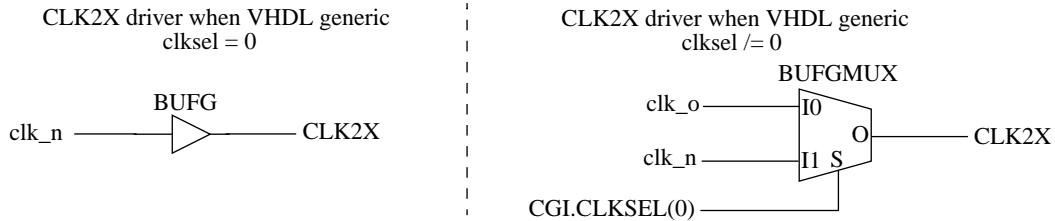
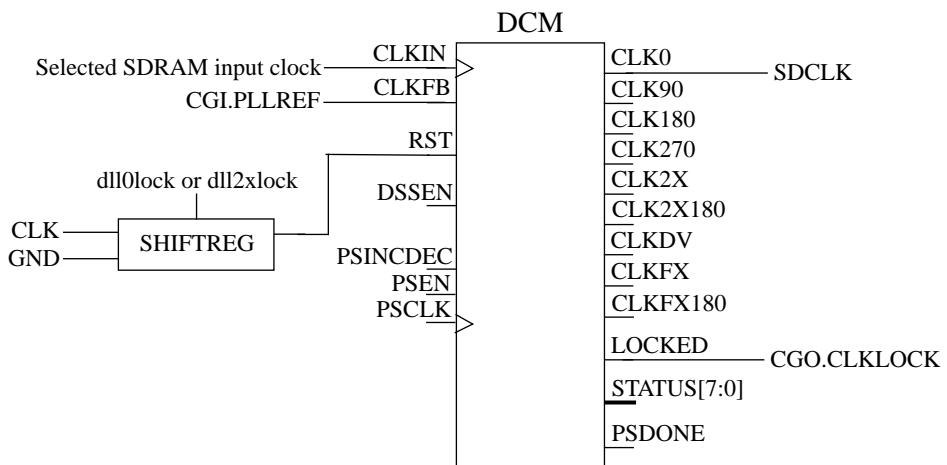

Figure 53. Spartan 3/e selection of CLK2X clock when VHDL generic *clk2xen* is non-zero
Figure 56. Spartan 3/e generation of SDRAM clock
shift register connected to the CLK2X DCM's RST input are set to '1'. When the dll0lock signal is asserted it will take four main clock cycles until the RST input is deasserted. Depending on the value of the *clksel* VHDL generic the core's CLK2X output is either driven by a BUFG or a BUFGMUX. Figure 53 shows the two alternatives and how the CGI.CLKSEL(0) input is used to selected between the CLK0 and CLK2X output of the CLK2X DCM.
If the SDRAM clock is enabled, via the *sramen* VHDL generic, and the clock generator is configured to use clock feedback the DCM shown in figure 56 is instantiated. This DCM has the same attributes as the CLK2X DCM. The input to the SDRAM DCM input clock is determined via the *clk2xen* VHDL generic. If the VHDL generic is set to 0 the input is the main CLK, if the generic is set to 1 the input is the *clk\_p* out of the CLK2X DCM shown in figure 53. If the *clk2xen* VHDL generic is set to 2 the clock input to the SDRAM DCM depends on the *clksel* VHDL generic. The input in this last case is the CLK2X output shown in figure 55.
If the SDRAM clock is disabled (*sramen* VHDL generic set to 0) or the core has been configured not to use clock feedback (*noclockfb* VHDL generic set to 1) the driver of the core's SDCLK output is determined by the value of the *clk2xen* VHDL generic. If the *clk2xen* VHDL generic is set to 2, the SDRAM clock output is the same as the CLK2X output shown in figure 53, in other words it also depends on the *clksel* VHDL generic. If the *clk2xen* VHDL generic has any other value the SDCLK output is the same as the core's CLK output.